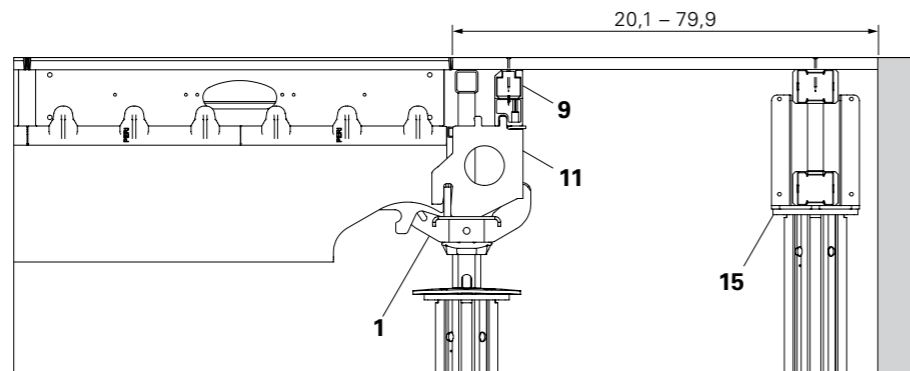
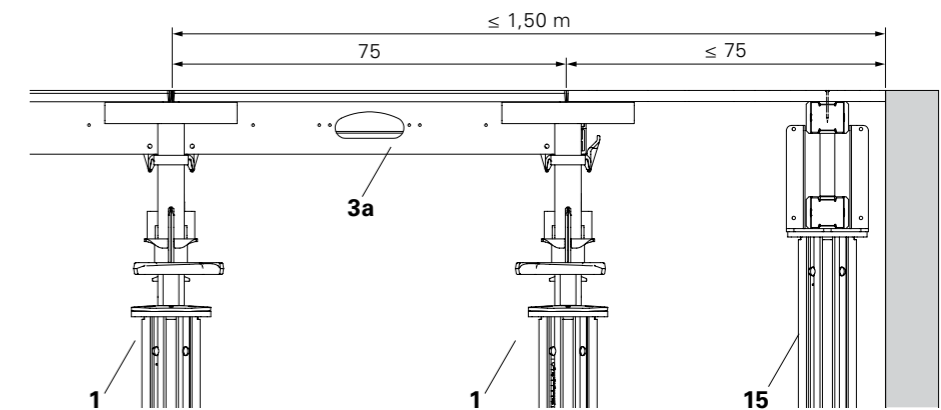
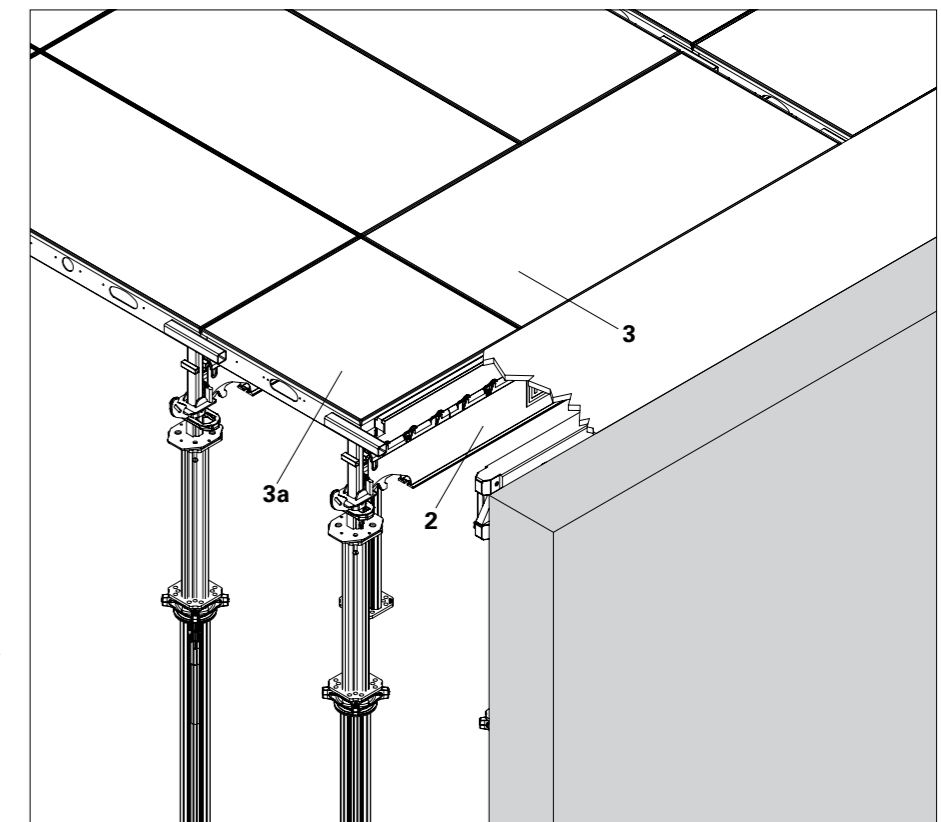

Fig. A5.28
Fig. A5.31
Fig. A5.32
1. Install Main Beam in Drophead SFK (1) (Fig. A5.31), Combihead SCK (7) turned by 180° (Fig. A5.32) or Prophead SSK (6) (Fig. A5.33).
2. Mount End Support (11) and Edge Beam (9).
3. Position additional prop with cross-head and formwork girder (15).
4. Install formlining and secure in position with nails. (Fig. A5.28 - A5.30)
1. Continue forming with prop, Main Beam SLT 225 (2) and transversely-positioned panel (3). Close the spacing to the next prophead with Panel SDP 75 x 75 (3a). (Fig. A5.31 + A5.32)